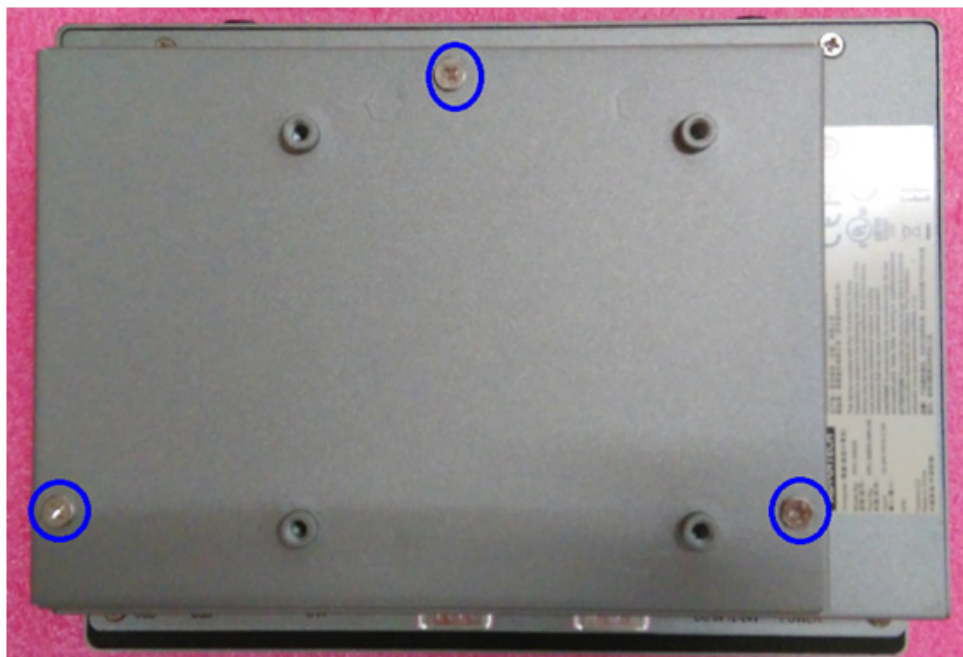

Figure 2.13 Positioning the HDD cover
6. Fit the HDD cover. (See Figure 2.13)